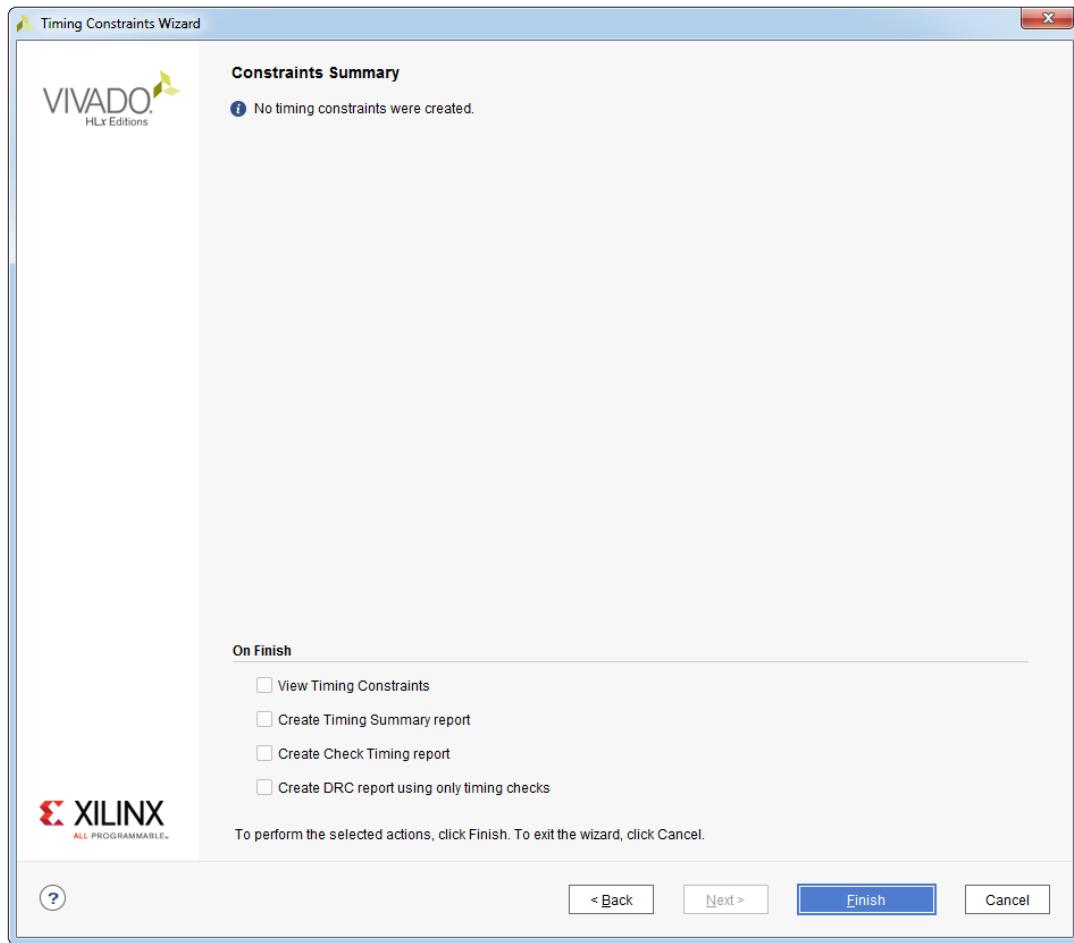

Figure 10.12: Constraints Summary dialog box
17. The **Constraints Summary** page is the final page of the Timing Constraints wizard, see Figure 10.12. All the constraints that were generated by the wizard can be viewed by clicking the links. If you would like to run any reports once the wizard is finished, you can select them using the check boxes in the wizard. Click **Finish** to complete the Timing Constraints wizard.